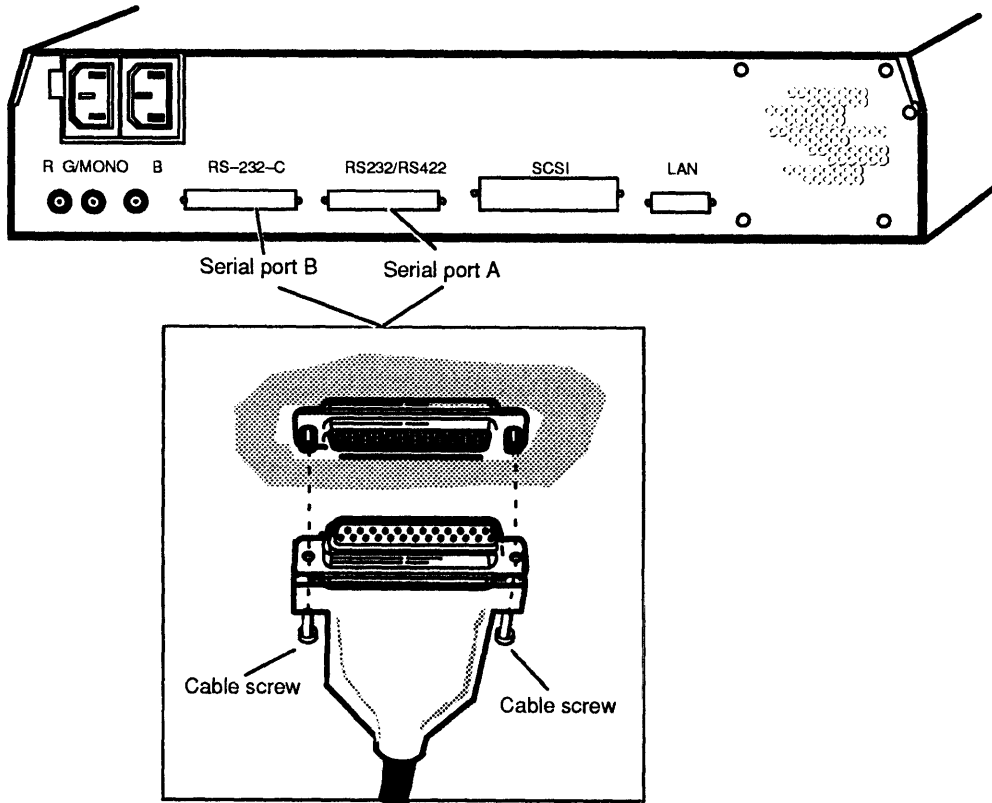

Figure 2-11 Connecting Devices to the Computer Unit Serial Connectors
1. Align the holes in the female end of the cable to the pins in the connector on the computer unit. Figure 2-11 shows the location of Ports A and B. Serial Port A is labeled RS232/RS422; serial Port B is labeled RS-232-C.